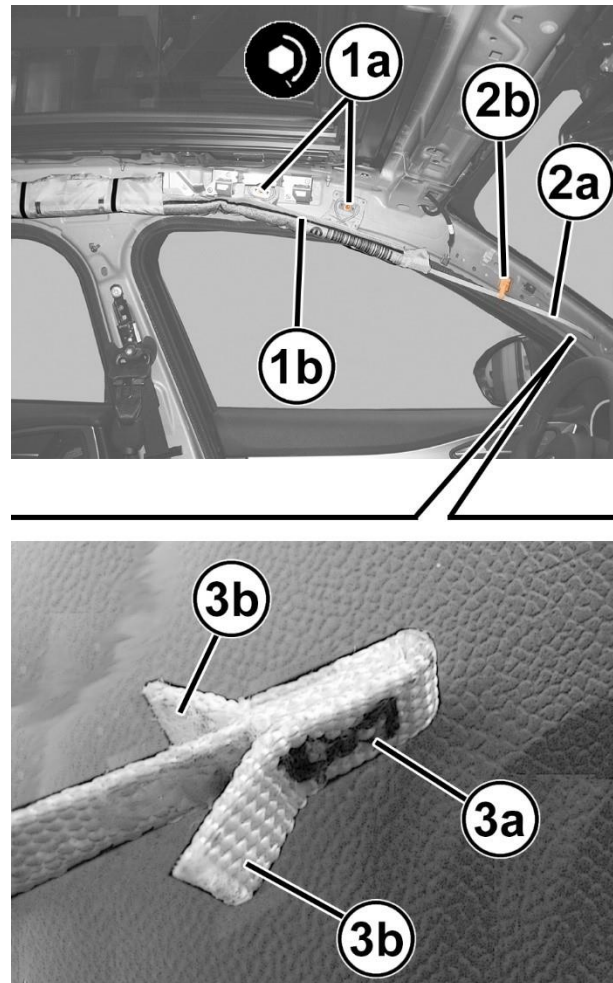

Figure 27 – Side Curtain Air Bag
6. Install the screws (1a) at the front part of the side curtain air bag module (1b) then tighten them to 9 N·m (80 in. lbs.) (Figure 27).
7. Engage the front stay (2a) to the retainer (2b) (Figure 27).
8. Engage the terminal in its housing (3a) with tabs (3b) of the side curtain air bag module from the front stay (Figure 27).